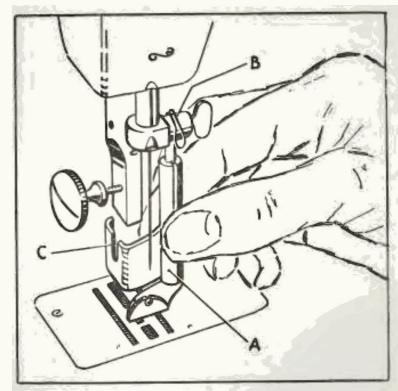

Fig. 56.
Move the needle bar up to its highest position and screw out the presser foot screw about 1/4 in. Then, holding the darning foot by its tubular part (A, Fig. 56), hook the spring (B) over the needle clamp. Press the holder (C) hard against the presser bar, push it up under the screw, and tighten the screw.